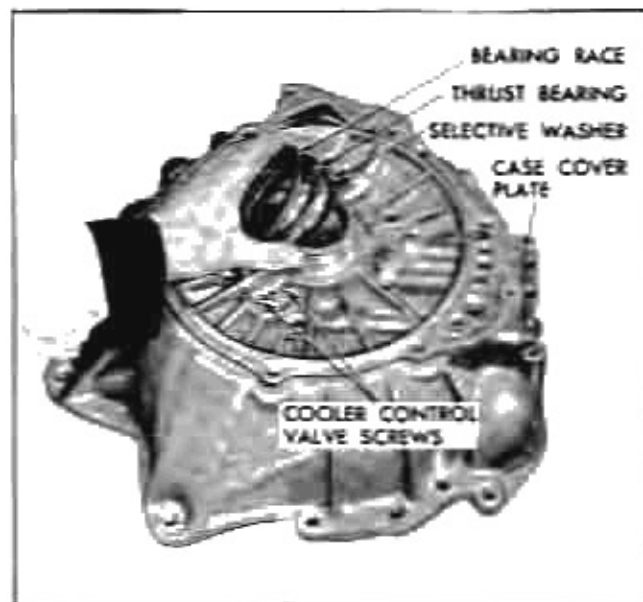

Fig. 68 Case Cover Thrust Bearing and Selective Washer
5. Remove race, thrust bearing and selective washer from case cover (Fig. 68). Race may have been previously removed.
6. Remove 2 screws (case cover to cooler control valve assembly, Fig. 68) and remove cooler control valve assembly and gasket. Do not disassemble cooler control valve assembly.